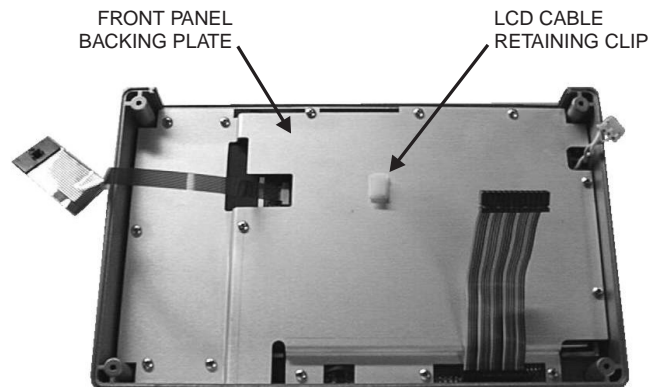

Figure 12. *Front Panel Backing Plate*
4. Release the LCD display cable from the retaining clip on the front panel backing plate (Figure 12).